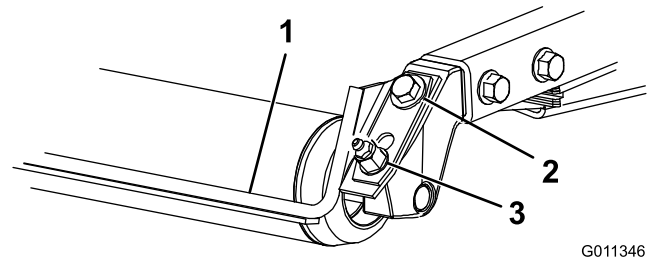

Figure 8
1. Loosen the grease fitting and the mounting screw (Figure 8).